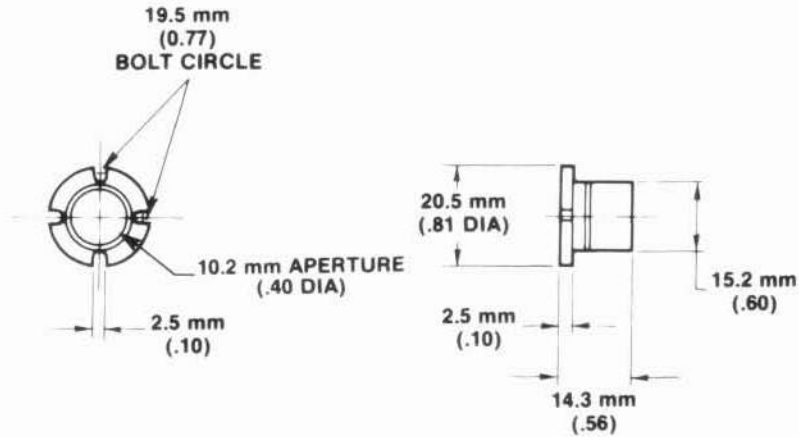

Figure 8-12. HP 10704 Retroreflector, Dimensions
**Dimensions:** See Figure 8-12.